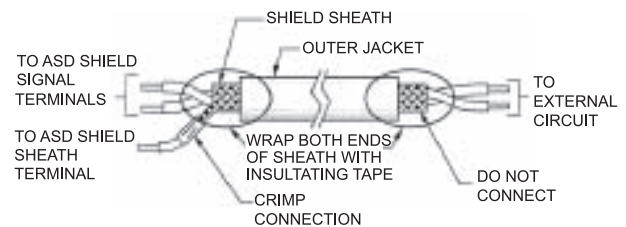

Figure 4. Control and signal circuit leads and shield sheath terminations
- (✓) For control and signal circuit leads, use twisted shielded or twisted-pair shielded wire with the standard AWG size recommended by the ASD manufacturer. Run in a separate conduit. When using shielded wire, the shield sheath *must* be connected at the ASD terminal designated for this connection. The other end of the shield sheath should be dressed neatly and left unconnected. See Figure 4.